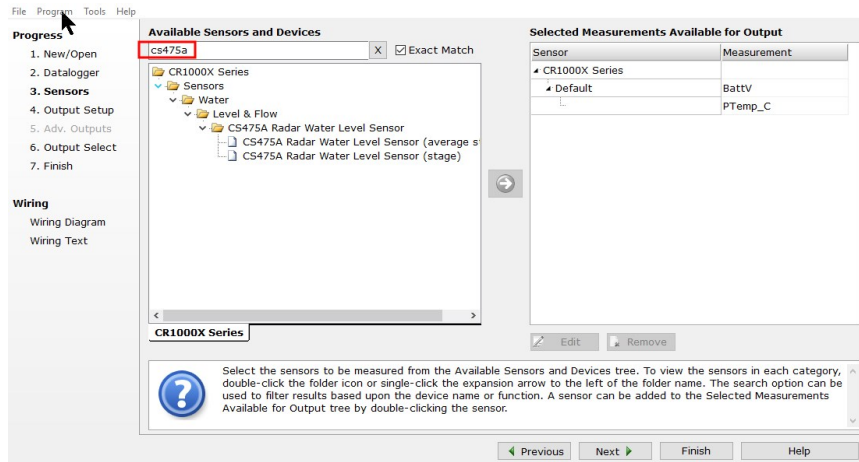
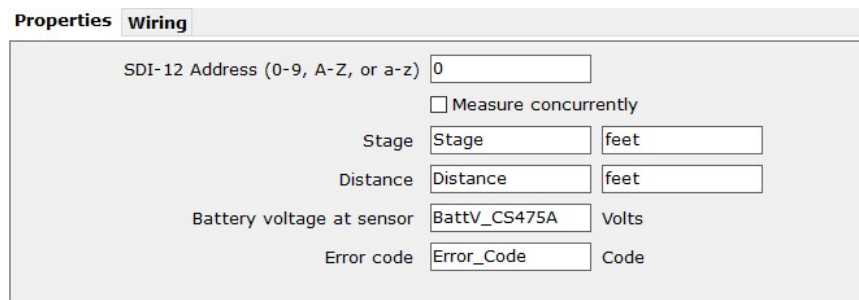
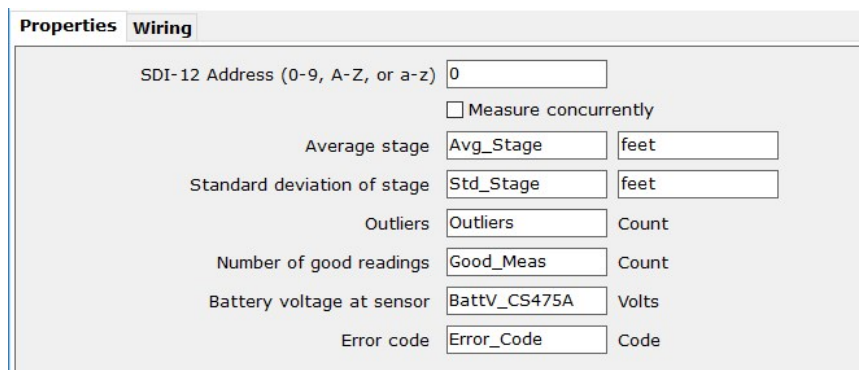

FIGURE 4-1. *Short Cut*, Sensor Selection
FIGURE 4-2. *Short Cut*, CS475A Stage Properties
FIGURE 4-3. *Short Cut*, CS475A Average Stage Properties
3. In the search box under the **Available Sensors and Devices** heading, start typing CS475A, or find the sensor in the **Sensors > Water > Level & Flow > CS475A Radar Water Level Sensor** folder. Double-click **CS475A Radar Water Level Sensor (average stage)** or **CS475A Radar Water Level Sensor (stage)** (FIGURE 4-1 (p. 3)). The **CS475A (stage)** measurement issues the **M!** command and collects four values (stage, distance, battery voltage at the sensor, and error codes) (FIGURE 4-2 (p. 3)). The **CS475A (average stage)** issues the **M1!** command and completes a NOAA PORTS measurement; the user must configure the sensor for the number of measurements included in the average (FIGURE 4-3 (p. 3)).